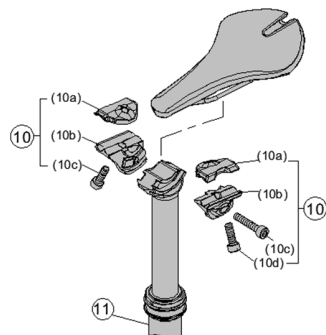

Fig. 1
4. Install Seatpost ⑪ into frame at approximately the correct max saddle height. Turn handlebars 90 degrees and mark where to cut housing. Correct length is when the housing is tight but not binding in this position (you may want extra length for saddle height adjustment) . (Fig. 1)
6. Cut cable housing ④ at mark, and install housing ferrule on end.
- Loose Lower clamp bolt (10c) . (Fig. 1)
- Remove Upper Clamp (10a), Lower Clamp (10b), and Upper Clamp Bolt (10d), Rotate seatpost 180 degrees and assemble Upper Clamp (10a), Lower Clamp (10b), and Upper Clamp Bolt (10d). Tighten Lower clamp bolt (10c) to torque 133-153 kgf.cm / 13-15 Nm / 115-133 in.lbs. (Fig. 1) (Fig. 5)